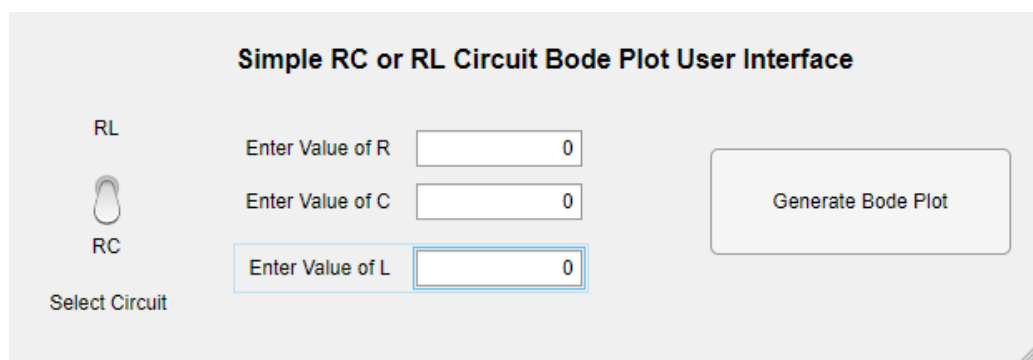
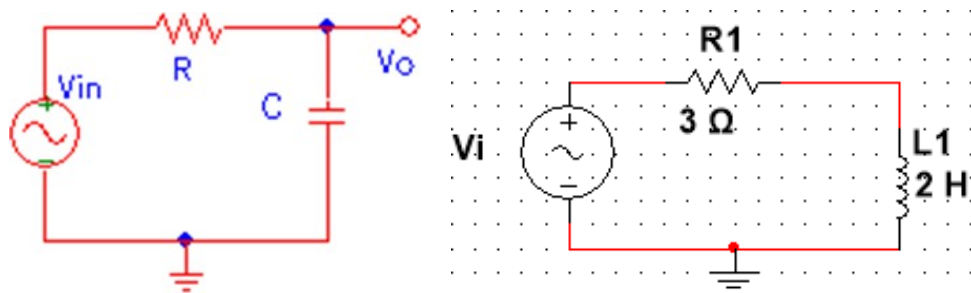

Figure 7.1 MATLAB App Designer User Interface
Figure 7.2 Series RC (a) and RL (b) circuits considered in the UI
2. Select **Blank App**. This should lead you to the App designer's design view, where you can see all the possible components that you can use. Construct the user interface as per Figure 7.1 (the components can simply be dragged and dropped to the Design Window)
The UI observed in Figure 7.1 tells the user to choose whether the circuit in question is an RC or RL series circuit of the following connectivity (as per Figure 7.2). It then asks the user for the value of the Resistor, Capacitor, or Inductor. It then generates the bode plot accordingly (for any value of R, C, or L).